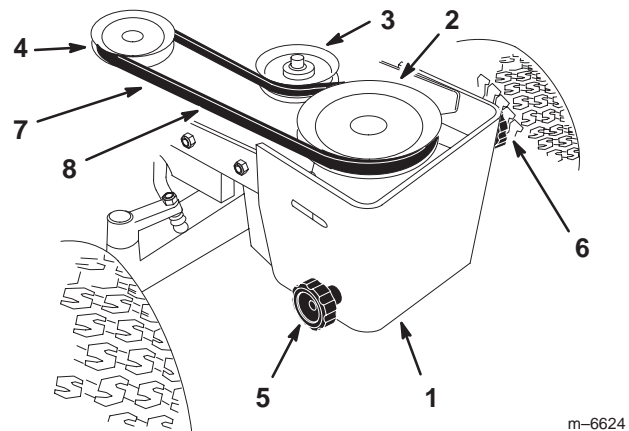

Figure 8
1. Install the PTO belt onto the clutch pulley (Fig. 8).
2. Install the PTO belt onto the upper pulley and upper idler pulley in the pulley box (Fig. 8).
3. Turn the left knob on the front pulley box to tighten the PTO drive belt (Fig. 8). There needs to be a 1/2 inch (13 mm) deflection in the belt.
4. Turn the right knob on the front pulley box to tighten the mower drive belt (Fig. 8). There needs to be a 1/2 inch (13 mm) deflection in the belt.